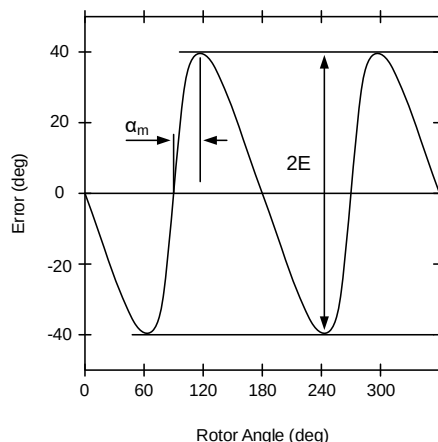

Figure 30: Error Curve in Side-Shift Configuration with BCT = 0
The k ratio depends on the magnet geometry and distance to the sensor. If the k ratio does not equal 1, the sensor output response is nonlinear with respect to the mechanical angle. The error curve has the shape of a double sinewave, where E is the amplitude of this error (see Figure 30 on page 32).
Next, plot the error curve (the difference between the MA600A's output and the real mechanical position vs. the real mechanical position) and extract two parameters: the maximum error (E), and the position of the maximum with respect to a zero crossing (α_m) (see Figure 30). In this scenario, the k ratio can be calculated with Equation (10):
Figure 30 shows the error curve.